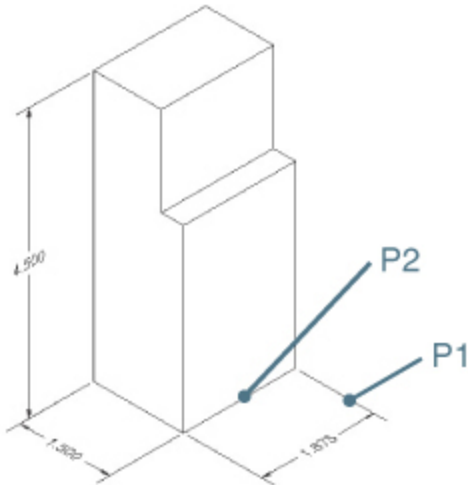

Figure 13-93
- 2 Select the dimension shown at P1 in Figure 13-93. The grips for the dimension appear.
- 5 Choose the **Select object** option and select the line shown at P2 in Figure 13-93. AutoCAD reassociates the dimension with the selected line.